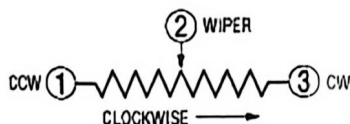

Figure 10. schematic symbol
6. A potentiometer (variable resistor), or pot for short is a three-terminal resistive device. The schematic symbol for a potentiometer is shown in Figure 10.